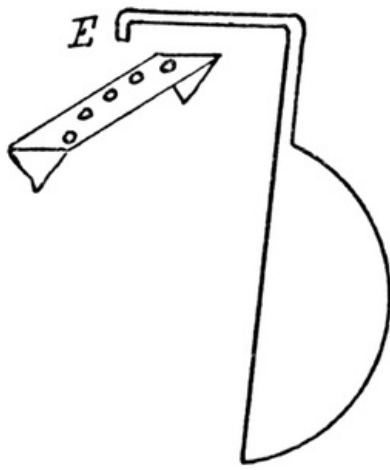

FIG. 519
**To make the Rudder.** Cut a piece of brass wire about 1/16 inch thick, 6¼ inches long. Cut the rudder out of tin and shape as in Fig. 519. Solder it on to the wire so that the end of the rudder is flush with the end of the wire. Pass the wire through the hole, D, and bend as in Fig. 519. Cut a strip of tin about 1/3 inch in width, punch holes in it, point the ends, bend them over and fasten them into the deck so that the strip is under the bend, E, of the tiller. Press the tiller over and into one of these holes; thus the rudder can be held firm in its required position for steering.